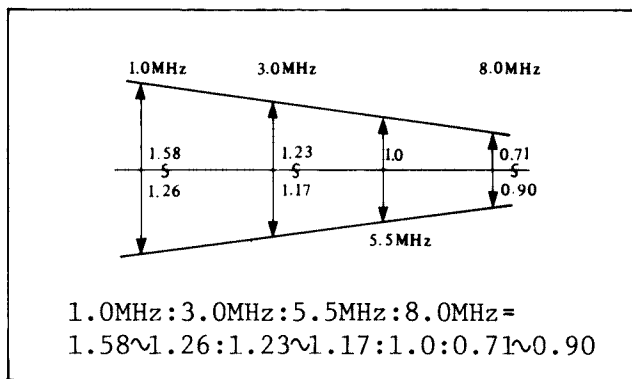

Fig. 2-5-18. CHROMA RECORDING AMP
4. Adjust VC5 (I FC) as shown in Fig. 2-5-18.